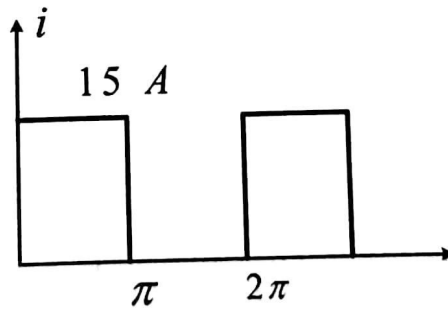

Fig. 2
2) A fully controlled switch is connected in a DC circuit with $V_{DC} = 100V$. The pattern of current flowing through the switch is illustrated in Fig. 2. If the ON-state resistance of the switch is 0.1Ω , find the average ON-state power loss. Assuming there is no other loss in the circuit (i.e no switching power loss and no power loss when the device is OFF), calculate the circuit efficiency.